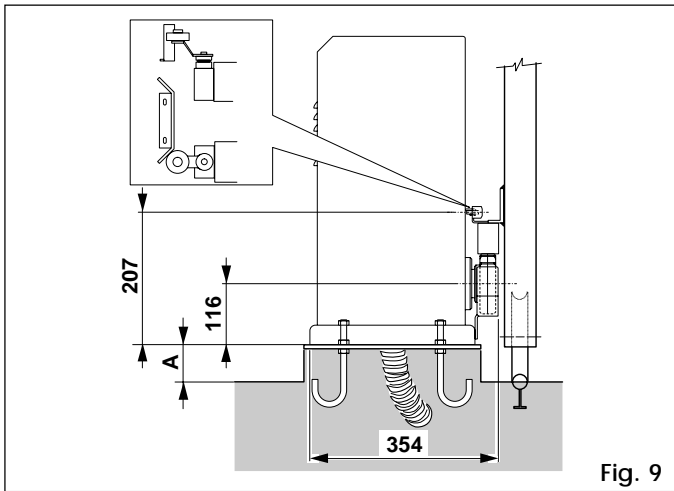

Fig. 9
**N.B.:** It is advisable to install the plate slightly raised from the ground. See A, fig. 9.